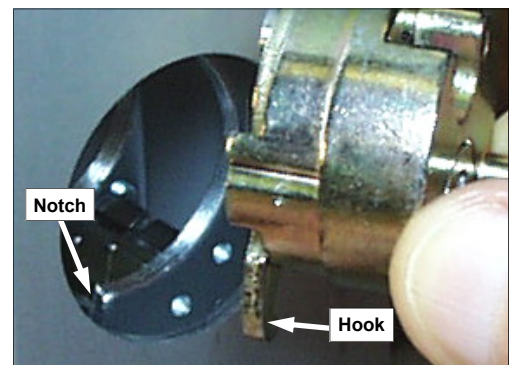

Fig. 5b: While holding latch in, place hook *in front* of the latch retractor and *through* the notch
- 5b. While holding in the latch, carefully insert the interface cylinder assembly into the cylinder hole. The hook must be *in front* of the latch retractor and pass *through* the notch in the lock case (see Fig. 5b).